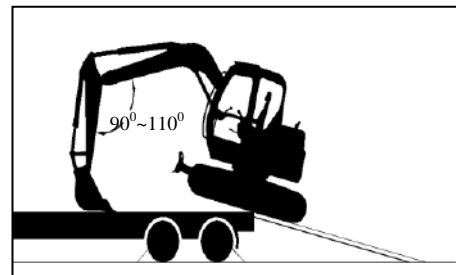

Figure 4.1.5
(2) The midline of excavator should be at the trailer's midline.
(3) Advance the excavator to the top of slope slowly with 90° - 110° foreside attachment:
- When the excavator begins leaning to the trailer bed, place bucket on the trailer, travel forward slowly, until the crawler reach trailer entirely and be fixed on trailer bed (As figure 4.1.5).